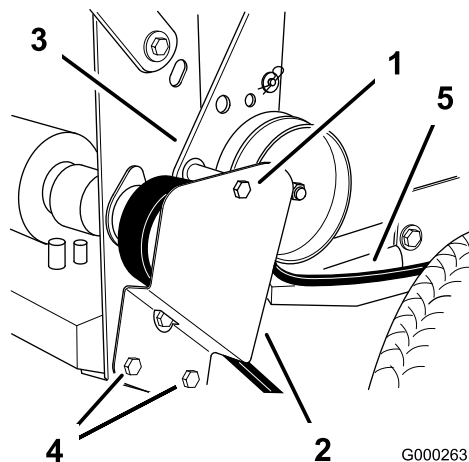

Figure 50
1. Remove the top capscrew securing idler support and idler bracket to rear frame (Figure 50).
2. Loosen bottom two mounting screws enough to allow belt to pass between drive pulley and idler support (Figure 50).
5. Install the top capscrew securing the idler support and idler bracket to the rear frame (Figure 50).
6. Tighten the bottom two mounting screws enough to allow the belt to pass between the drive pulley and idler support (Figure 50).